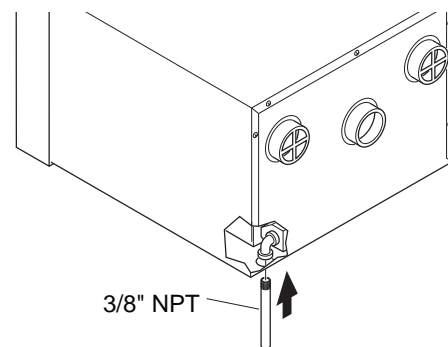

Figure 14 - Inserting Pipe through Knockout Hole
11. Run 3/8" pipe or nipple through knock-out hole. Connect 3/8" pipe or nipple to manifold elbow (see Figure 14). See *Providing Gas Piping to Furnace*, pages 9 and 10 for correct gas pipe installation.